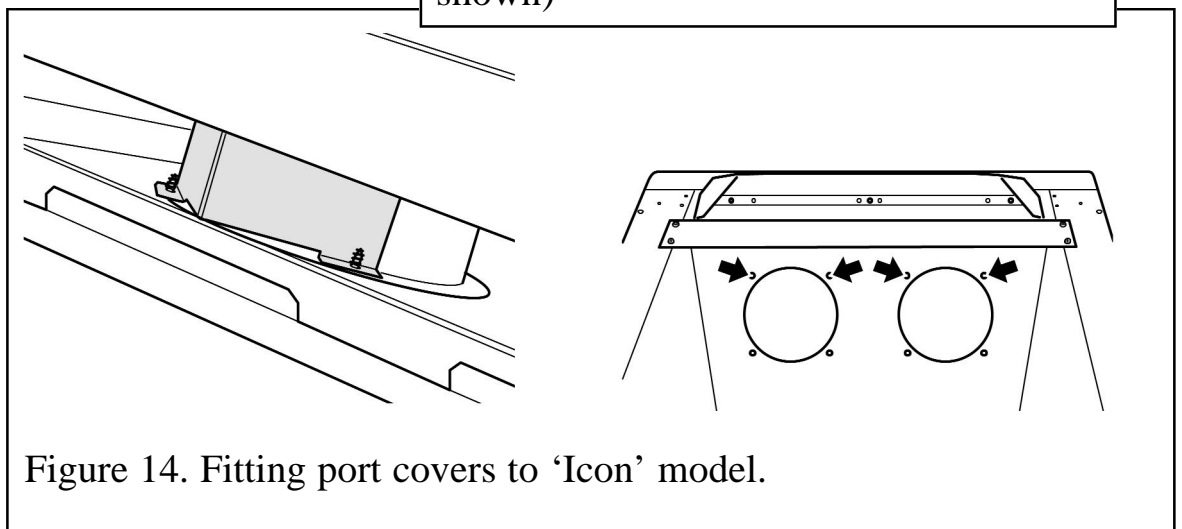

Figure 14. Fitting port covers to ‘Icon’ model.
7. The ‘Icon’ fascia is supplied with two port covers. To fit the port covers unscrew the four cross over port screws shown in figure 14. Put the port covers in place and refit the screws previously removed. *Ensure that the screws are tight and that the cross over ports have returned to*
their original position. Also check that there are no gaps between the cross over ports and the surfaces they are screwed to (See figure 14).